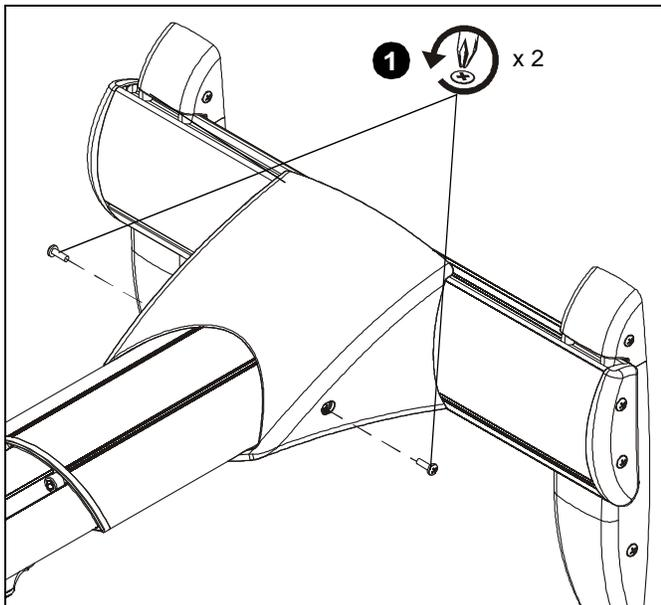

Figure 1
1. Remove two Phillips pan head screws to release existing mount cover. (See Figure 1)